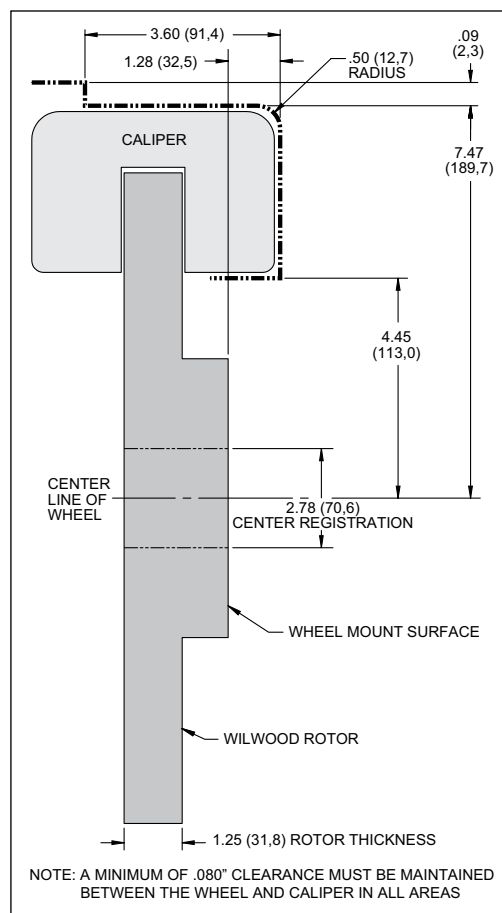

Figure 2. Wheel Clearance Diagram
- Review the wheel clearance diagram (Figure 2, page 3) to verify that there is adequate clearance with the wheels you will be using with the installation.
•Make sure this is the correct kit to fit the exact make and model year of your axle. This kit is designed for direct bolt-on installation to 1997 through 2013 model year Chevrolet C5 and C6 Corvette hubs. Speciality aftermarket wheels or spacer may be required. Check wheel clearance diagram, Figure 2.
•Verify your wheel clearance using Figure 2.